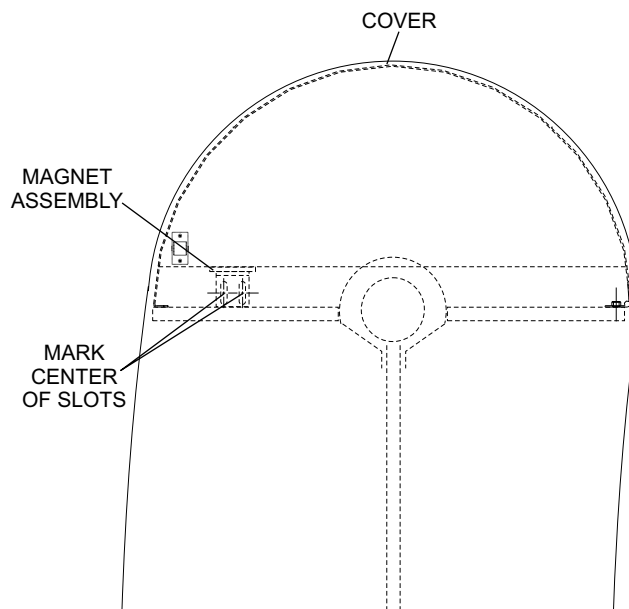

Figure 10
- Mark center of magnet mount bracket slots on underside of table top. Refer to *Figure 10*.